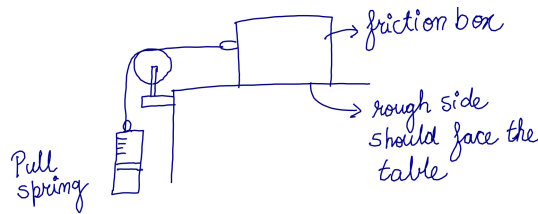

Figure 1: Setup
1. Prepare the setup as shown in the figure 1.